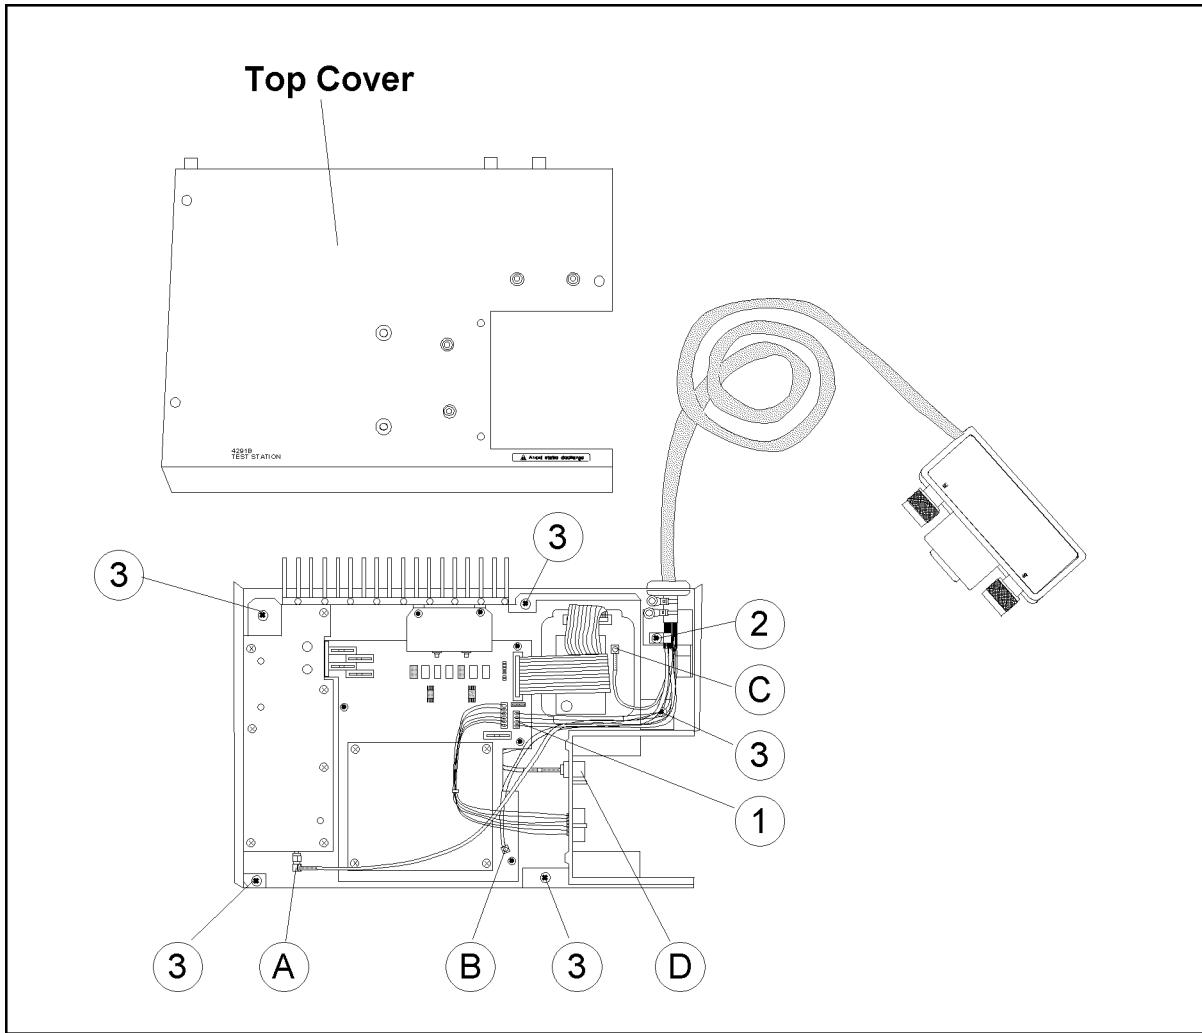

Figure 13-9. A41 TRD Amp Replacement
2. Disconnect the flexible cables ④, ⑤, ⑥, and ⑦ from A41.
3. Disconnect the wire designated ① in Figure 13-9.
4. Remove the screw designated ② in Figure 13-9 to remove the cable clamp.
5. Remove the five screws designated ③ in Figure 13-9 to remove A41 from the bottom cover.